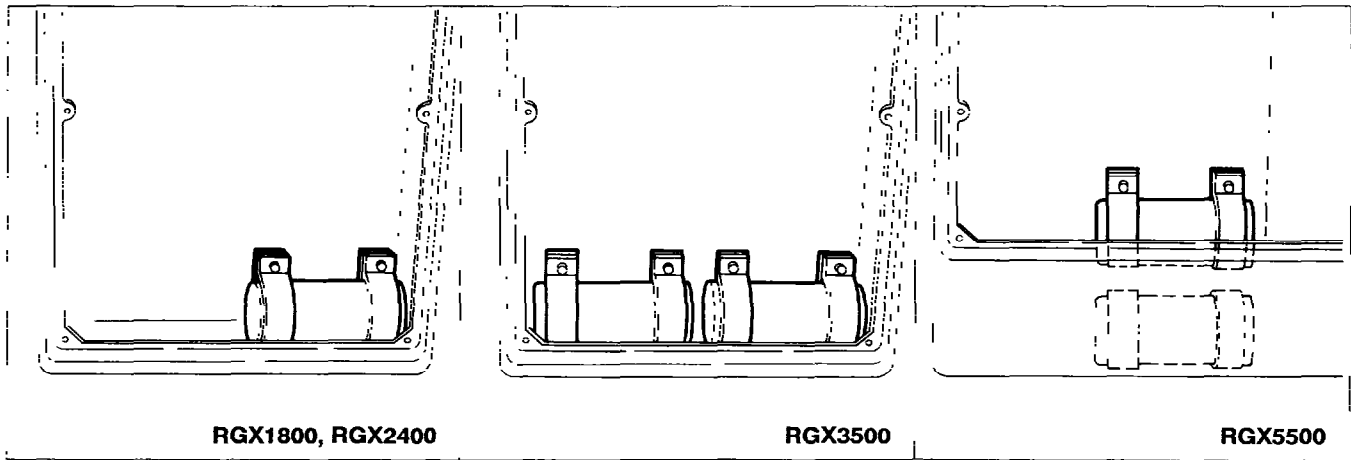

Fig. 9-6
■ Use a “Dr. Robin” in capacitance meter mode to check the capacity of condensers. (See Fig.9-6).